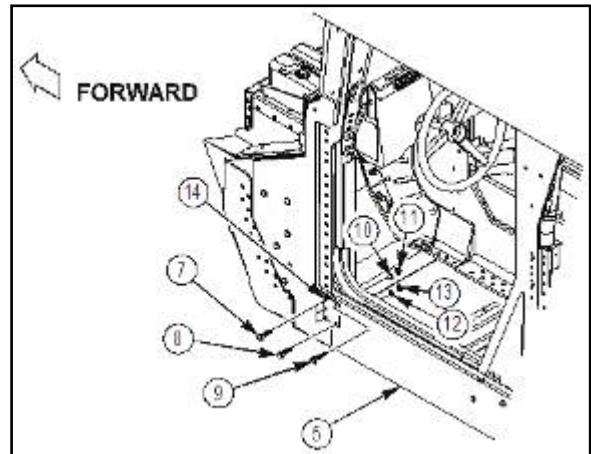

Figure 29c.
19. Install existing modified A-pillar to rocker gap plate (14) with three 4397000-077 capscrews (7) as shown in figure 29c. Do not tighten capscrews (7) at this time.
20. Install 4397001-073 capscrew (8), 4397005-014 washer (12), and 4397064-006 locknut (13) as shown in figure 29c. Do not tighten locknut (13) at this time.
21. Install 4397000-020 capscrew (9), 4397005-010 washer (10), and 4397064-001 locknut (11) as shown in figure 29c. Tighten three capscrews (7) and one locknut (13) to 37 lb-ft (50.2 N·m), and locknut (11) to 10 lb-ft (13.6 N·m).